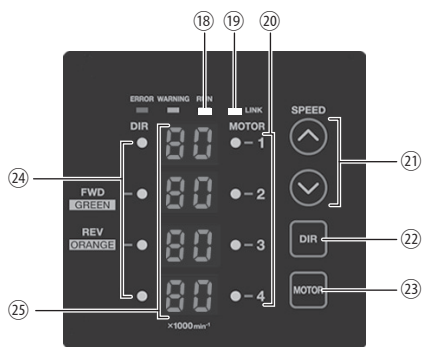

Fig. 22 SELECTOR Control Panel
- (1) Set Motor Selection (Set the Motor Selection Button (MOTOR) ⑳ of the Fig. 22 SELECTOR Control Panel.)
- (2) Set Motor Rotating Direction (Set the Rotation Direction Button (DIR) ㉒ of the Fig. 22 SELECTOR Control Panel.)
(Set the Motor Speed Adjustment Button (SPEED ⬆️ , ⬇️ ) ㉑ of the Fig. 22 SELECTOR Control Panel.)
- (5) Setting Motor Speed (Set the Motor Speed Adjustment Button (SPEED ⬆️ , ⬇️ ) ㉑ of the Fig. 22 SELECTOR Control Panel).
- Motor Speed Range is 1,000 - 80,000 min-1 (rpm). Limit the motor speed depends on motor and spindle model. Setting parameter (P2), allows the Motor Speed to be adjusted in Auto Mode using the Motor Speed Adjustment Button (SPEED ▲, ▼) ② of the Fig .22.